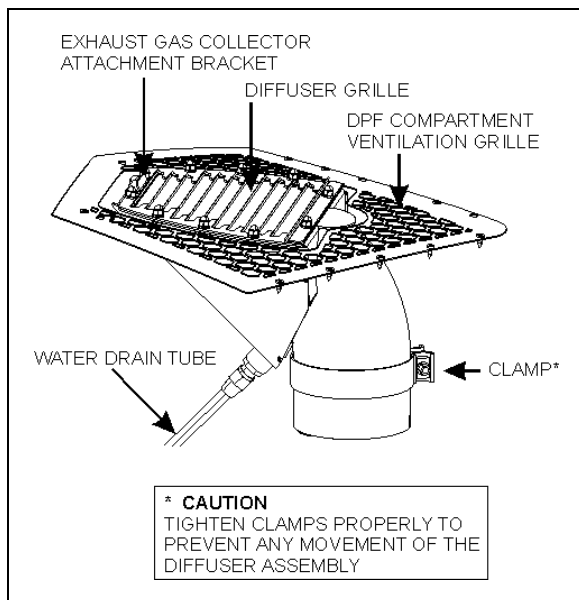
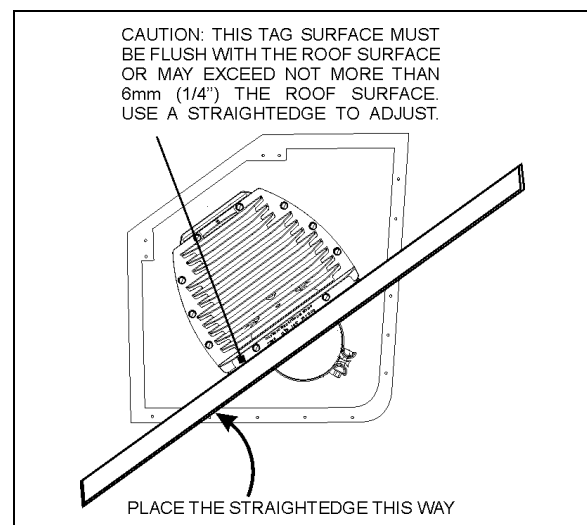

FIGURE 9: DIFFUSER ASSEMBLY 04014
FIGURE 11: DIFFUSER POSITION ADJUSTMENT 04015_2
- Using a straightedge, adjust the diffuser assembly level. The top surface of the tag fixed on the diffuser grille must be flush with the roof surface (fig.9). It may exceed about 1/4in (6mm). Place the straightedge as shown on figure 11.